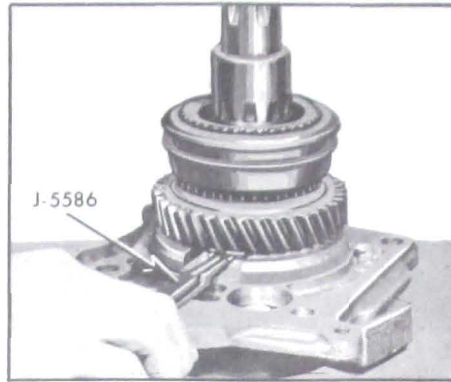

Figure 4-34—Installing Rear Bearing Retainer
11. Install the rear bearing retainer (see Figure 4-34). Spread the snap ring in the plate to allow the snap ring to drop around the rear bearing and press on the end of the mainshaft until the snap ring engages the groove in the rear bearing.